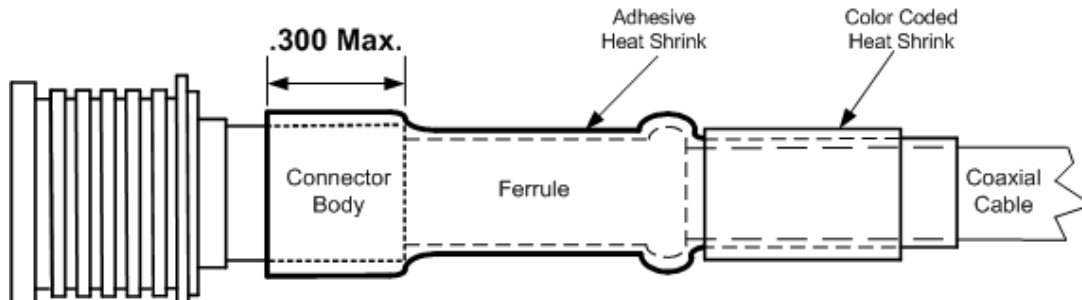

Figure 2-9. Heat Shrink Positioning
6. The use of adhesive heat shrink is recommended for QMA connector installations at the antenna and in non-pressurized locations throughout the aircraft. Ensure the adhesive heat shrink overlaps the connector body .300 inches maximum and does not interfere with the outer sleeve of the QMA connectors when disengaging the connectors. It is recommended that the color-coded heat shrink tubing provided in the kit be used for identification purposes and located approximately as shown in Figure 2-9.